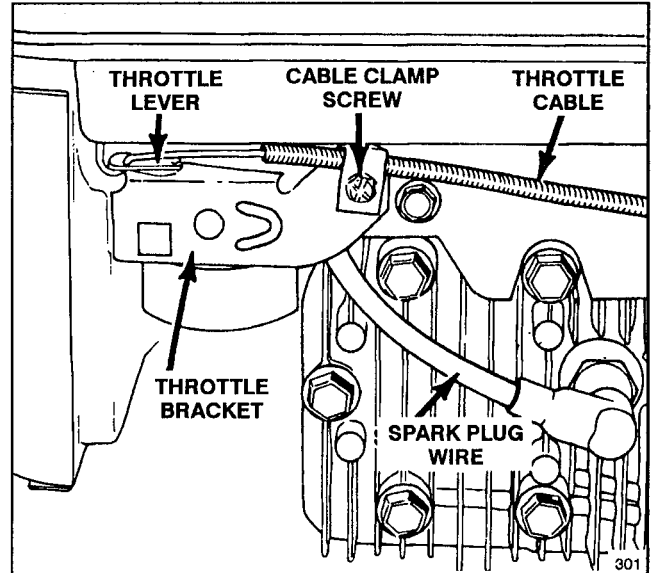
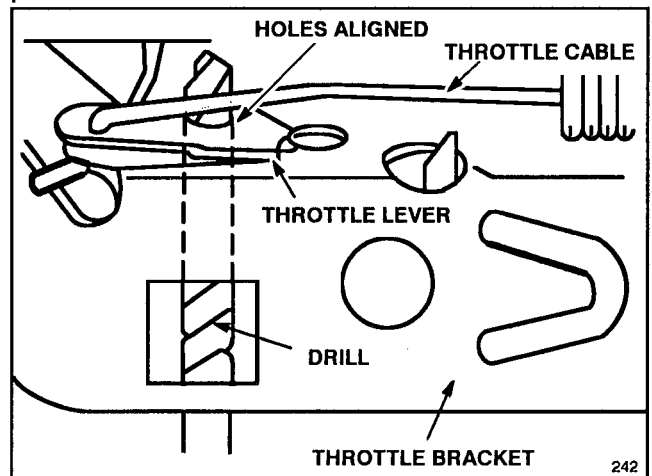

Figure 18
Figure 19
1. Stop engine and pull wire off spark plug (Fig. 18). Remove key from switch on electric start model.
3. Loosen cable clamp screw until throttle cable slides (Fig. 18). Align holes in throttle lever and throttle bracket using a 1/8" diameter drill (Fig. 19). Tighten cable clamp screw to lock adjustment in place.
1. Stop the engine. Pull the wire off the spark plug (Fig. 18). Remove key from switch on electric start model.
1. Stop engine and wait for all moving parts to stop. Pull wire off spark plug (Fig. 18). Remove key from switch on electric start model.